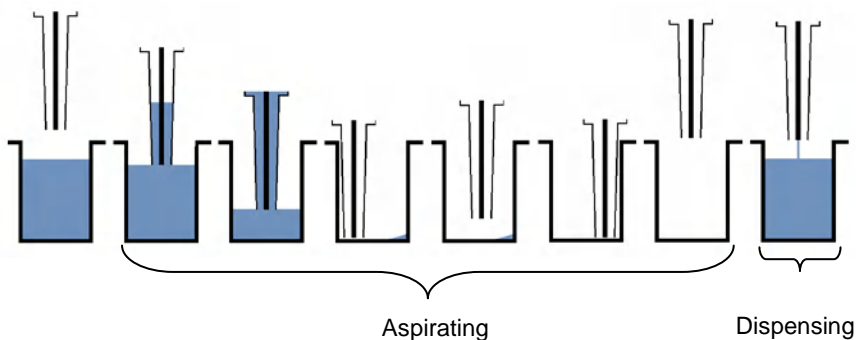

Figure 33. Principle of Wash step (Sweep2)
- **Aspirate mode** – Define the aspirate mode Normal, Sweep 2, or Sweep 3. Sweep is allowed for 96-well plates with flat wells. The default depends on the wash head type or well shape. Refer to Figure 33.
- **Aspirate mode** – Define the aspiration mode Normal, Sweep 2, or Sweep 3. The default is *Sweep2*. Sweep is allowed for 96-well plates with flat wells. Refer to Figure 33.